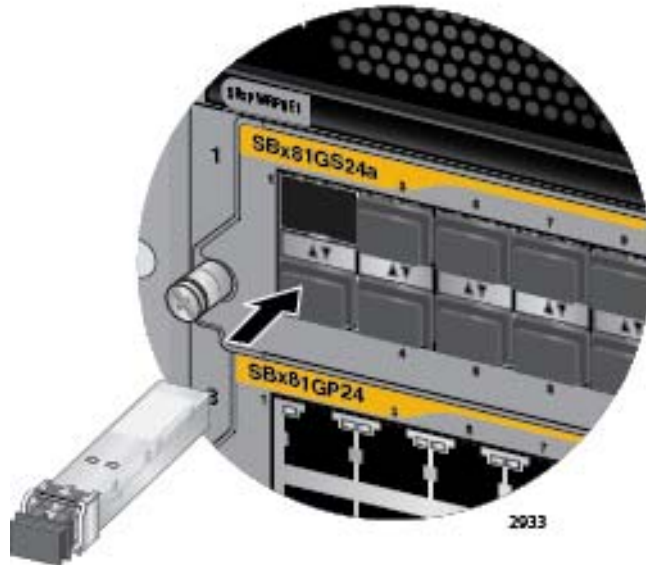

Figure 79. Inserting the SFP Transceiver in the AT-SBx81GS24a Line Card
- Slide the transceiver into the slot until it clicks into place, as shown in Figure 79.